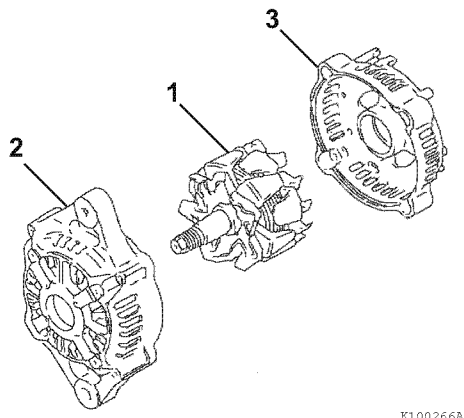

Figure 12-14
4. Lubricate the shaft of the rotor assembly (1, **Figure 12-14**). Press the rotor assembly into the front frame housing (2, **Figure 12-14**) and rear frame housing (3, **Figure 12-14**).